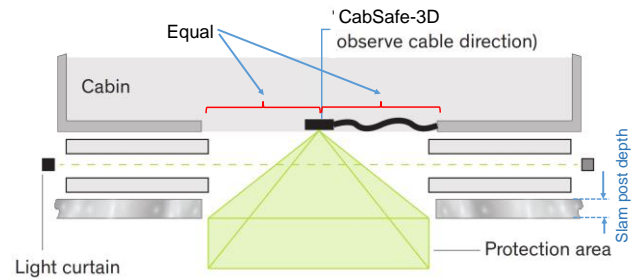
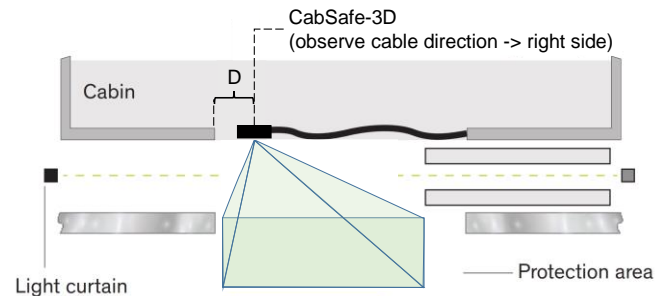
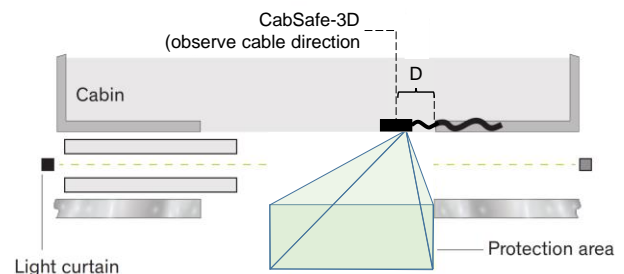

Figure 24: Mounting location and orientation - center opening door
Figure 25: Mounting location and orientation –sensor mounted on left side
Figure 26: Mounting location and orientation – sensor mounted on right side
| CabSafe 3D-FB-TDL      | Black            | Tall Door, sensor on Left (Figure 25)  |
| CabSafe 3D-FB-TDR      | Black            | Tall Door, sensor on Right (Figure 26) |
- The CabSafe TDL (Tall Door Left) must be installed on the left side of the elevator door entrance when looking from the hallway to the cabin (Figure 25).
- The CabSafe TDR (Tall Door Right) must be installed on the right side of the elevator door entrance when looking from the hallway to the cabin (Figure 26).
- A. Cable must exit right when looking into the elevator cabin (Figure 24, Figure 25, Figure 26)
The sensor located near the slam post (strike jamb) and a minimum distance from the slam post (strike jamb) must be maintained; see Figure 25 and Figure 26 for details.